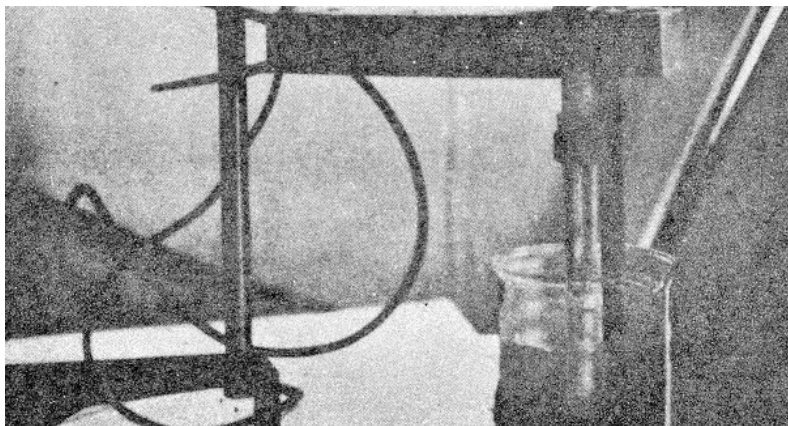

Figure 20
20. Immerse the electrodes in clean distilled water (figure 20).